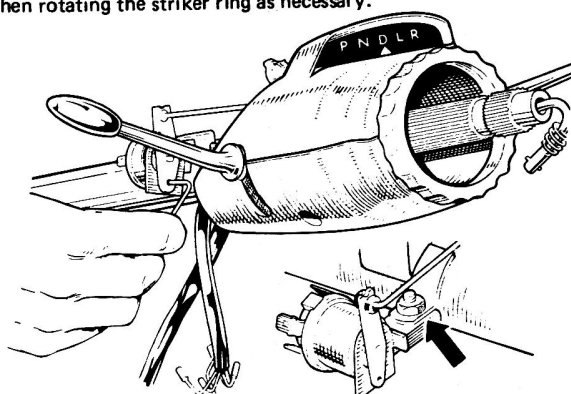

Fig.11.27. Setting the starter/reverse light inhibitor switch
- 2 Fit the rubber cup (25) over the end of the steering column.
- 3 Ensure that the striker peg (46) is between the two cancelling arms on the flashing indicator lever.
- 10 To ensure correct operation of the reverse light and starter cut-out inhibitor switch on automatic drive models, slacken the starter/reverse light inhibitor switch securing bolt. Move the gear selector lever to the "D" position. Move the starter/reverse light inhibitor switch until the hole in the lever is in line with the hole in the switch base plate. Maintain the holes in alignment by passing a piece of wire through them (Fig.11.27). Tighten the nut securing the switch to the upper column. Remove the wire.